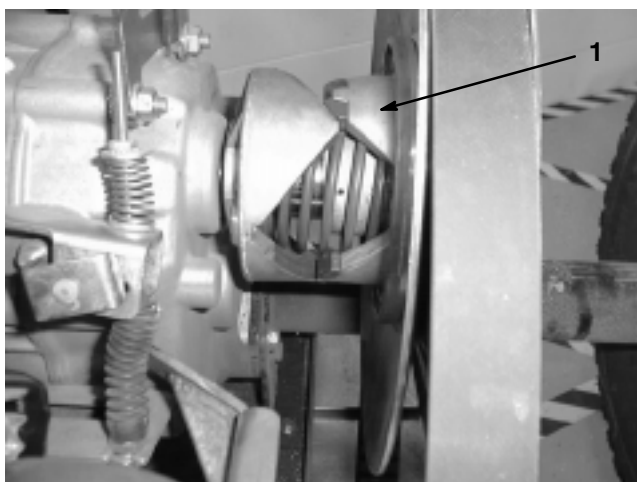

Figure 16
- Ensure that the transaxle is locked in neutral by rotating the secondary clutch (Fig. 16). The tires should not rotate. If tire rotation does occur, repeat step 2 until the tires no longer rotate.